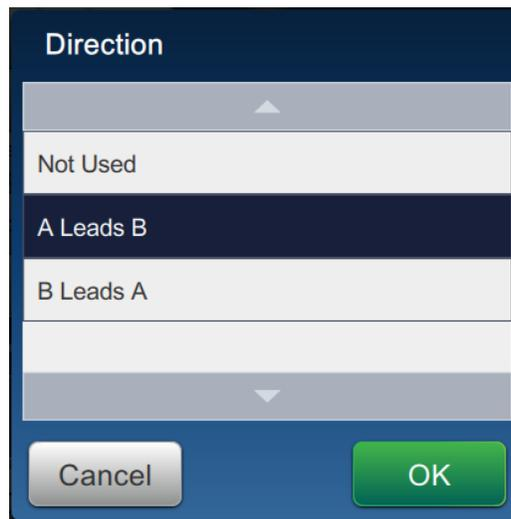

Figure 4-30: Direction
7. Select the *Direction* and touch the  button. Refer Figure 4-30 and Table 4-10.